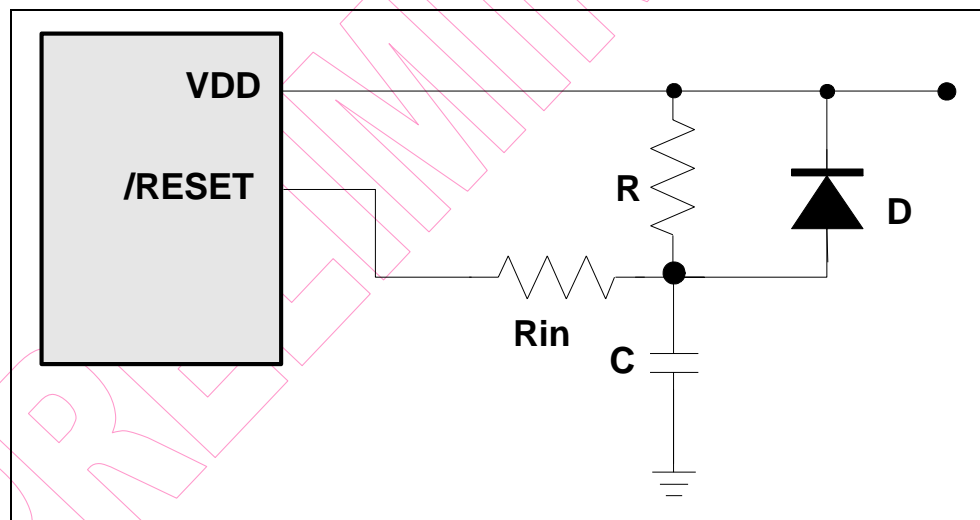

Fig. 6-12 External Power-on Reset Circuit
The circuit shown in Fig.6-12 implements an external RC to produce a reset pulse. The pulse width (time constant) should be kept long enough to allow V_{DD} to reach minimum operation voltage. This circuit is used when the power supply has a slow rise time. Because the current leakage from the /RESET pin is about $\pm 5\mu\text{A}$, it is recommended that R should not be greater than 40K. In this way, the voltage at Pin /RESET is held below 0.2V. The diode (D) acts as a short circuit at power-down. The capacitor, C, is discharged rapidly and fully. R_{in}, the current-limited resistor, prevents high current discharge or ESD (electrostatic discharge) from flowing into Pin /RESET.